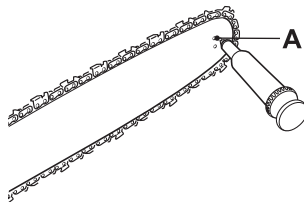

Fig. 37
**NOTE:** It is not necessary to remove the saw chain (4) to lubricate the sprocket nose (6). Lubrication can be done on the job.
- > Clean the sprocket nose (6).
- > Using a disposable lube gun, insert the nose of the needle into the lubrication hole (Fig. 37, A) and inject grease until it appears on the outside edge of the sprocket (6) (Fig. 37).
- > Make sure that the chain brake (2) is deactivated. Rotate the saw chain (4) by hand. Repeat the lubrication procedure until the entire sprocket (6) has been greased.